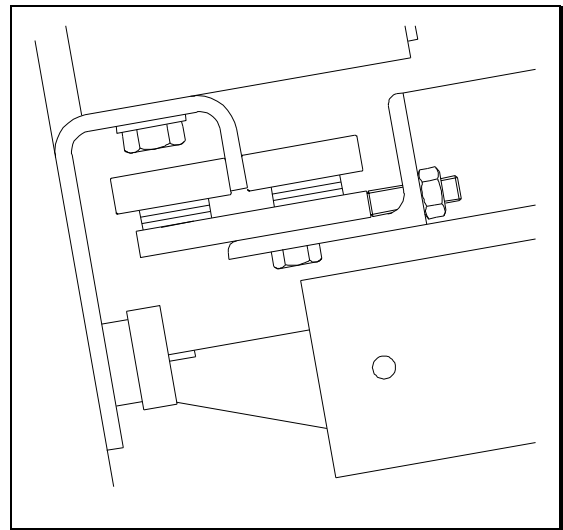

Figure 7
- 1 Dismantle bearing support on bottom side of slideway by removing two bolts. (Figure 7)